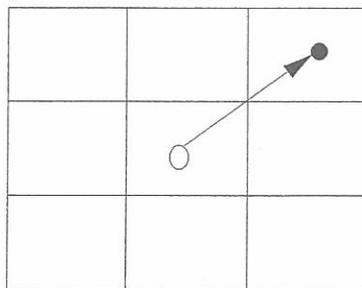

FIG 19
10. Place a good part in the "Reference coil". The spot will move away from the center of the scope. If not, increase the sensitivity and repeat. Move the piece into the reference coil until the spot has reached its maximum position (Figure 19) and begins to reverse direction. At this point, you are finished with the reference coil. Move it away from the test area so that it will not be disturbed.